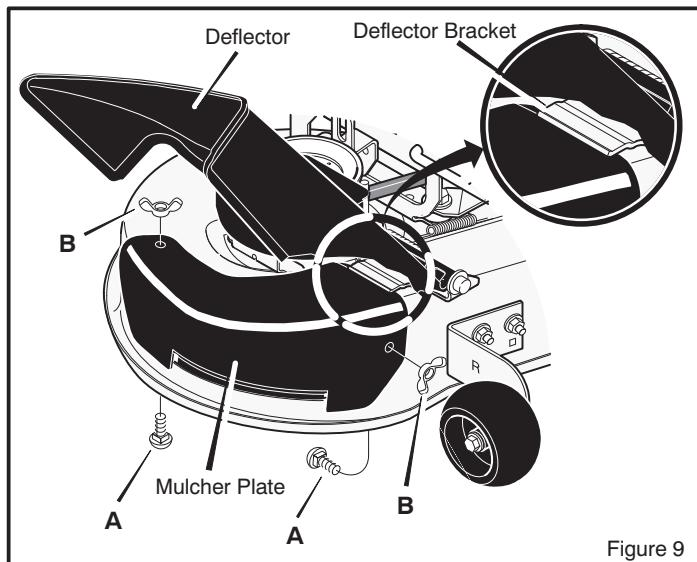

Figure 9
1. Raise the **deflector**. Remove the two wingnuts **B** and two carriage bolts **A** (Figure 9).
2. Slide the top of the **mulcher plate** under the **deflector bracket** (Figure 9).